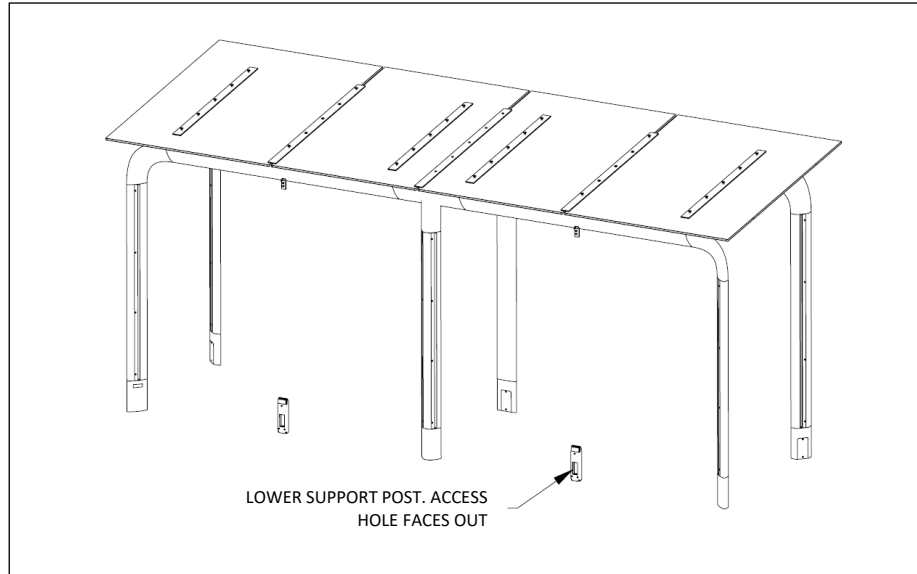

Fig. F3 – lower posts for glass walls
2. Attach upper posts to horizontal beams and check for level – note orientation, see Figs. F3 and F4. Securely tighten.